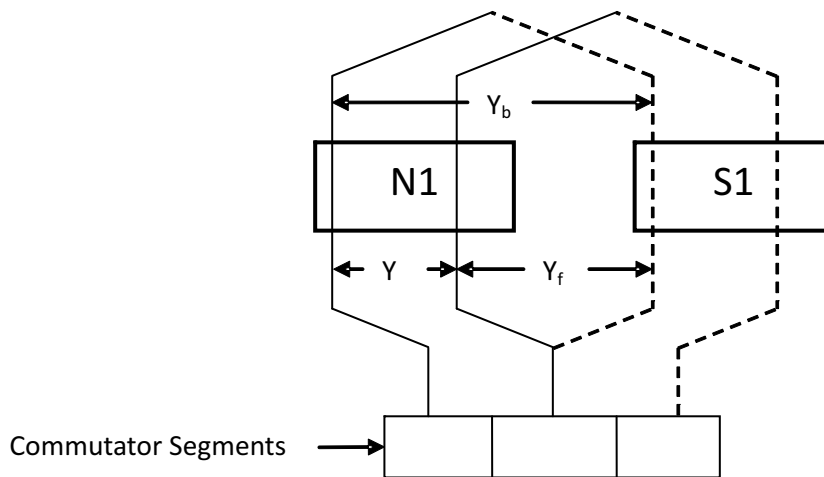

Fig.3.9 - Lap winding
3.8 LAP WINDING : When the finishing end of the first coil is connected to the starting end of the next coil which starts from the same pole, as shown in Fig. 3.9, where the first coil started is called as lap winding.
From Fig. 3.9, for lap winding, the front pitch, $Y_f = Y_b - Y$ 3.20
From Fig. 3.9 or from equation 3.20, front pitch, $Y_f = 11 - 2 = 9$ or $13 - 2 = 11$ (odd integer).